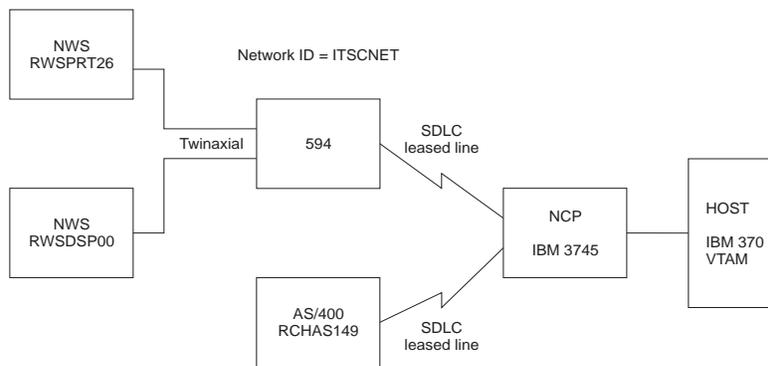

Fig. 13: SNA SubArea Network configuration
- Fig. 13: SNA SubArea Network configuration 8